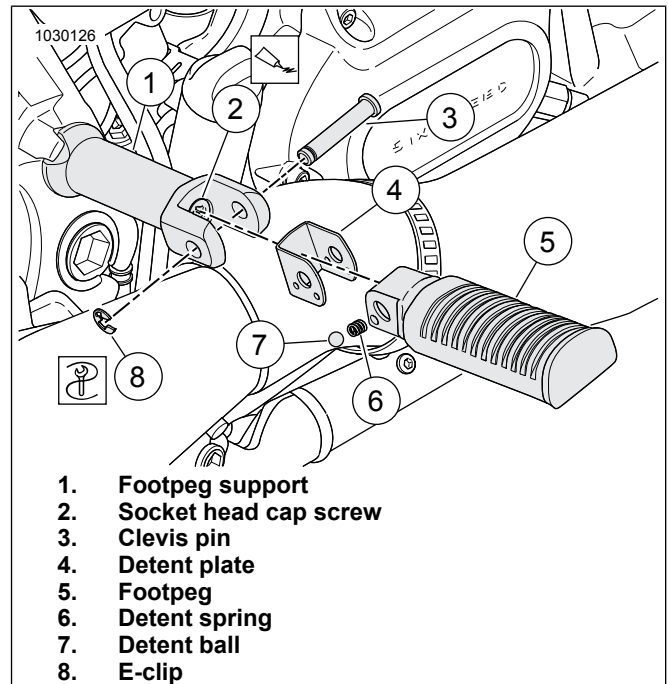

Figure 1. Softail Passenger Footpeg
1. See Figure 1 Remove e-clip (8) and clevis pin (3) from footpeg support (1). Remove footpeg (5), and retain for later use.
2. Remove detent plate (4), detent spring (6), and detent ball (7) from footpeg support.
3. Remove socket head cap screw (2) and footpeg support (1) from vehicle.
Reference Figure 1 for installing new footpeg parts on vehicle.